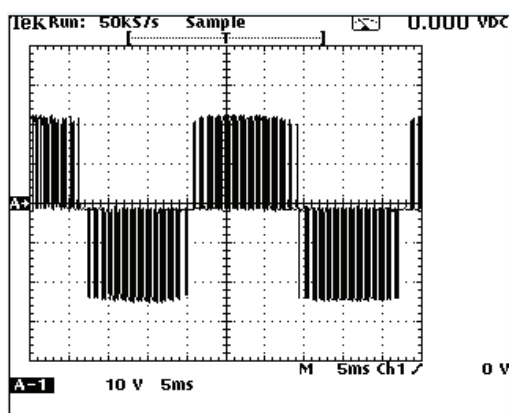

Figure 6.8 Output Wave Form
- a. When measuring with an oscilloscope, the waveform appears the same as in normal operation, except that the amplitude is 24 V peak. *Figure 6.8*